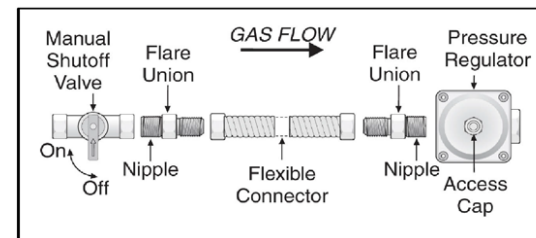

Figure 12
- 2) When installing, fit a safety valve at the end of the pipeline. The appliance leaves the factory tested and set for natural gas. Make sure that the type of gas to be supplied to the appliance is the same as that shown on the label affixed to the rear of the appliance. (See Figure 12)
- 5) Screw the regulator cap back into the regulator and re-attach the regulator to the nipple and flare union. (See Figures 12 and 19)